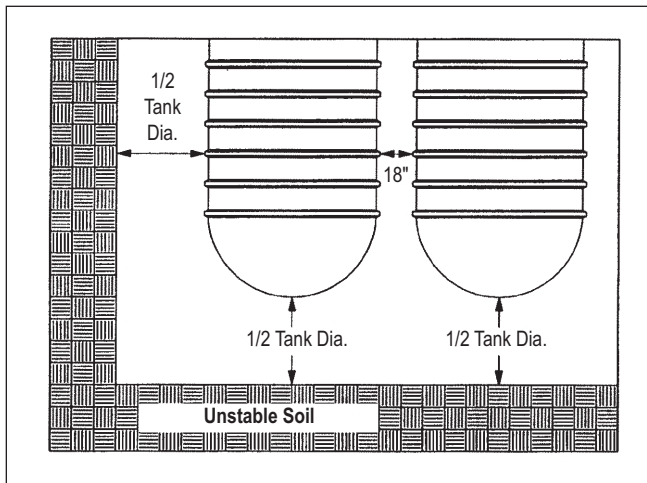

FIGURE 7-4
7.5.3.2. If the soil has less than 750 lbs./sq. ft. cohesion as calculated from an unconfined compression test; or in soils having an ultimate bearing capacity of less than 3,500 lbs./sq. ft.; or where soil will not maintain a vertical wall, the excavation must allow a minimum space equal to one-half (1/2) the diameter of the tank between the excavation wall and both the side and the endcap of the tank to enhance lateral resistance. See FIGURE 7-4.
7.5.3.4. The spacing between adjacent tanks is to be at least 18 inches. See FIGURE 7-4.